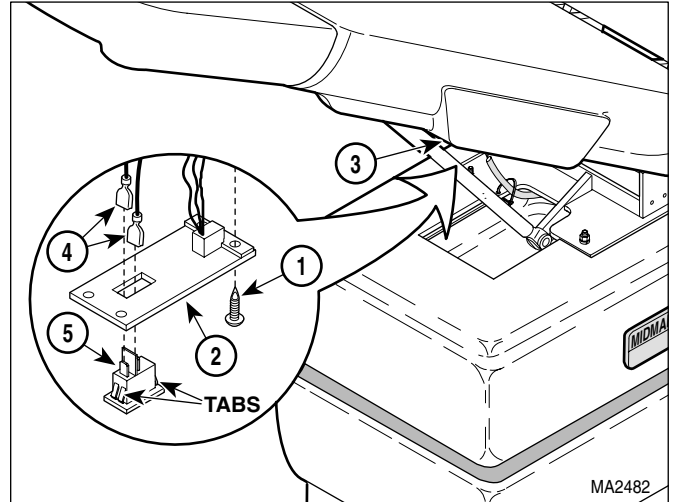

Figure 4-6. Control Disable Switch Removal / Installation
- (2) Remove four screws (1, Figure 4-6) and partially separate control cover (2) from plastic seat section (3).
- (3) Disconnect two wires (4) from control disable switch (5).
- (4) Press on four tabs of of control disable switch (5), while simultaneously pulling control disable switch out of control cover (2).